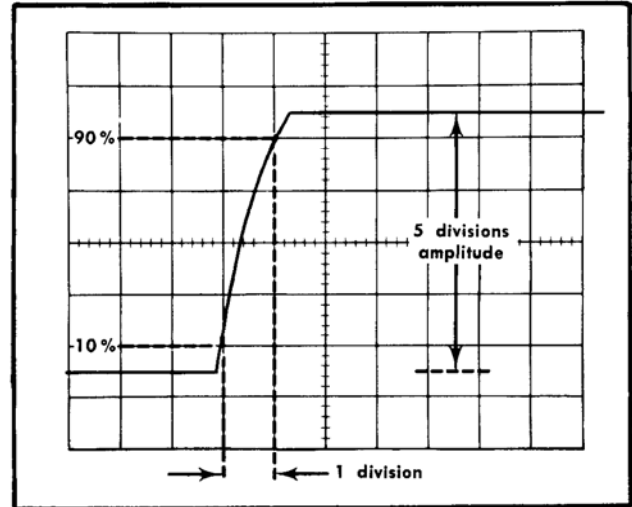

Fig. 5-19. Idealized waveform showing maximum allowable calibrator risetime at sweep rate of 1 μs/division.
f. CHECK—CRT display for one division or less between the 10% and 90% points on the leading edge of the calibrator waveform (one microsecond, or less, risetime; see Fig. 5-19).